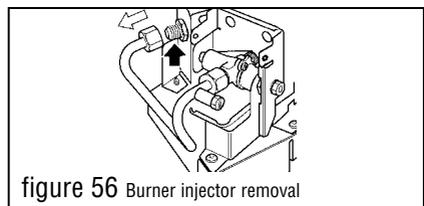

figure 56 Burner injector removal
- 15.12 **TO REMOVE THE MAIN BURNER INJECTOR** (See figure 56)